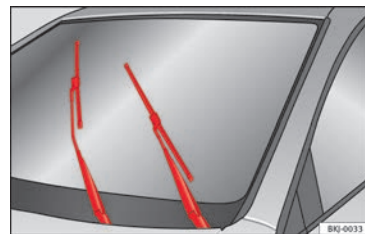

Fig. 88 Wipers in service position.
- Turn the ignition on and off and then (with-in approximately 9 seconds) push the windscreen wiper lever down (short wipe). The windscreen wipers will move to the service position » **Fig. 88.**